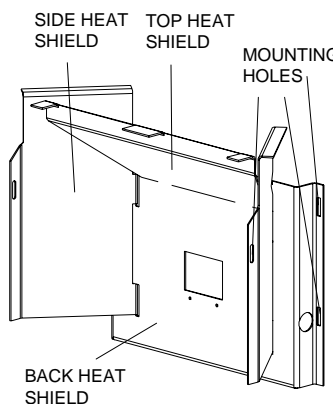
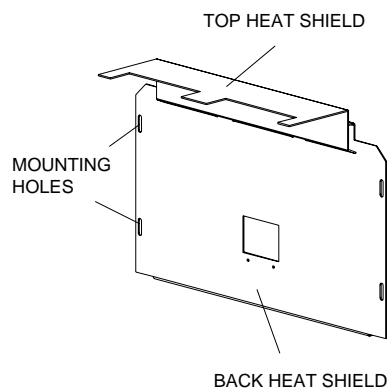

Figure 20. Model 100 and KSH 120 Heat Shields.
Figure 21. BayWin Heat Shields.
2. Clean behind the back heat shield as well as all exhaust passages. Ashes can build up behind the back heat shield and inside the exhaust passages. To remove the back heat shield you must remove 4 bolts located at each corner of the heat shield. On some models the side heat shields must be removed by removing the 2 bolts holding them in place. Using a brush, remove all of the ashes that have built up on the back wall of the combustion chamber, on the inside of the heat shield as well as in the exhaust passage. Inspect the auger chute gasket at this time. Make sure the gasket is still in good condition and that it is in the original position when the back heat shield is bolted back into position. Make sure to clean behind the back heat shield after every 3 tons of fuel burned. See Figure 20 and Figure 21 for removal of the heat shields.